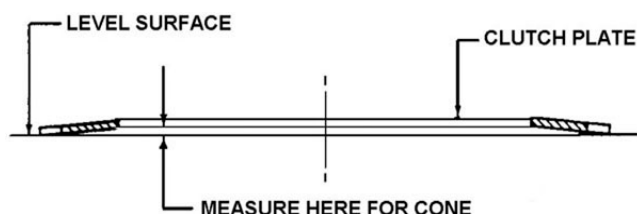

Figure 1-58. Steering-clutch disc measurement.
If the adjustment above does not correct the steering problem, a brake-band replacement and steering-clutch inspection may be required. This is a labor-intensive job that requires the cab to be tilted and the hydraulic oil and fuel tank be removed to gain access to the steering valve and clutch (fig. 1-58).
5.	Measure each clutch disc (plate) for warpage as shown in figure 1-58.